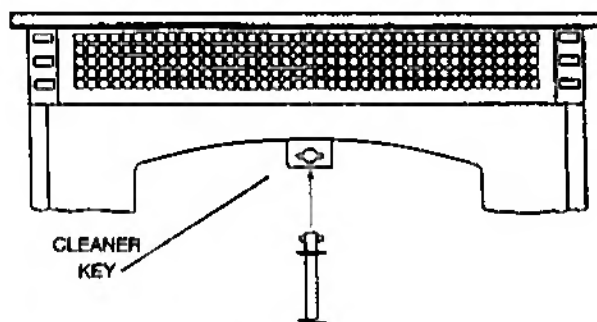

FIGURE 9
- The stove is designed with a built in heat exchange tube cleaner. This should be used every two or three days to remove accumulated ash on the tubes, which reduces heat transfer. Insert tool in cleaner key (see figure 9). Twist, move backwards and forwards several times. Leave key at front of stove.